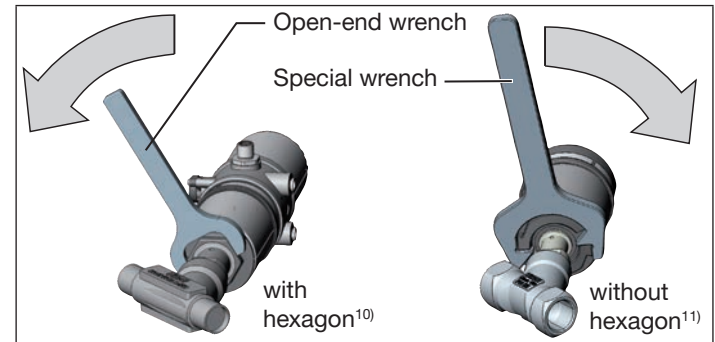

Fig. 22: Rotating with special key / open-end wrench
- ▶ Rotate the actuator module in the specified direction only (see “Fig. 22”)!